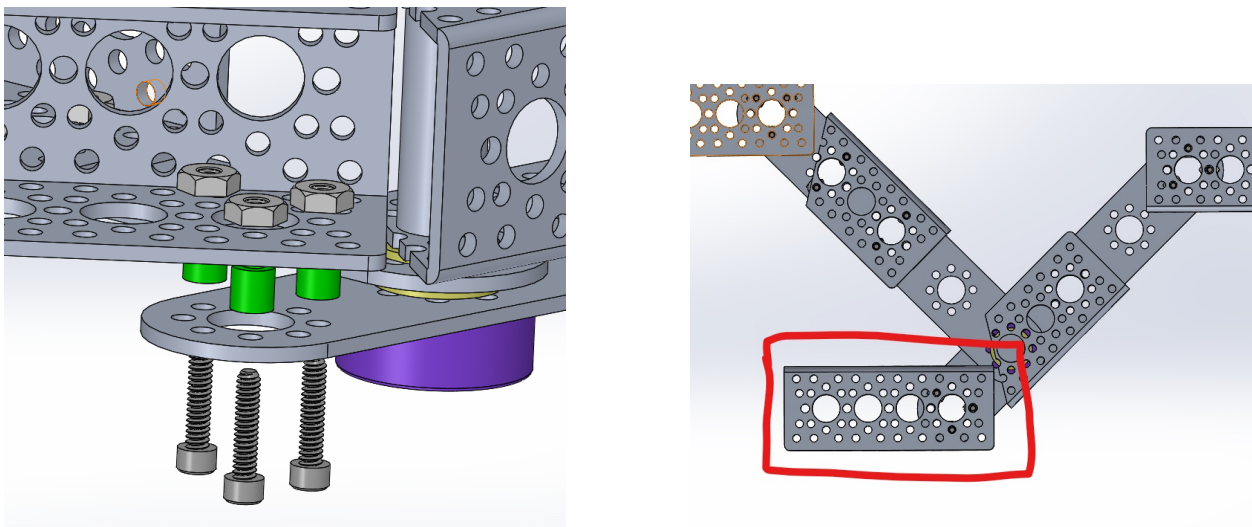

Figure 6: Attachment for middle wheel
4. **Attachment for middle Wheel:** Attach another 3.75 inch channel **S3** to the bottom hole of the pattern F bracket using spacers **T1**, screws **B3**, and hex nuts **B11** as shown in Figure 6.